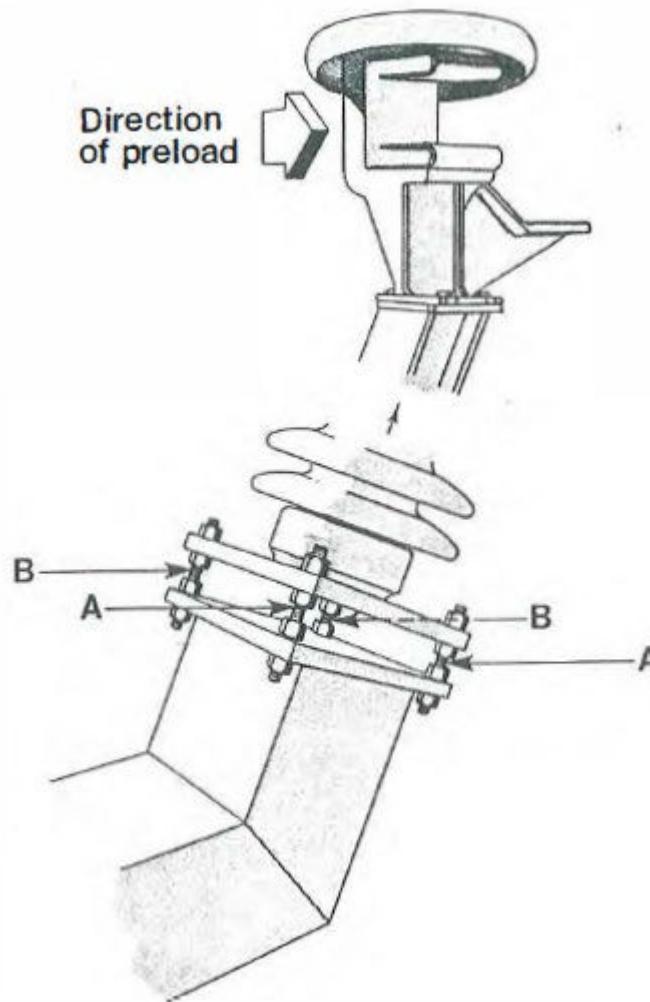

Figure 13: Pre-loading
- 2.3. **Figure 13** and shorten both jack screws "A" by four flats, and lengthen both jack screws "B" by four flats on both jaw stacks. This procedure establishes proper preload against insulator deflection, and is essential for switch operation. Note the relationship of the parts in
- 2.4. **Figure 13**; the jaws must be loaded toward the blade.